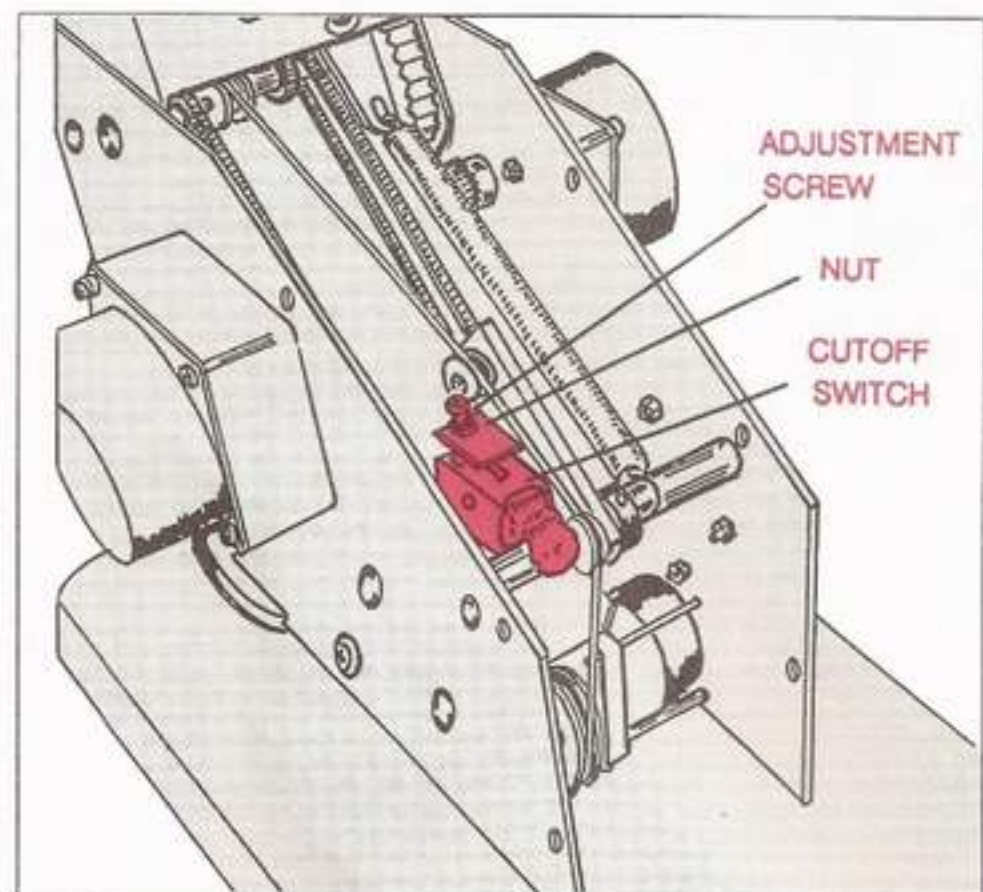

Fig. 97: The Gripper Cutoff-Switch Adjustment
- ___ j. If the gripper motor continues to run after the gripper has closed, manually click the cutoff switch. Loosen the nut at the base of the cutoff-switch adjustment screw, as depicted in Fig. 97. *Note: You may have to break the lock-seal to do it.*
- ___ p. Loosen the nut at the base of the cutoff-switch adjustment screw, as shown in Fig. 97. *Note: You may have to break the lock-seal to do it.*